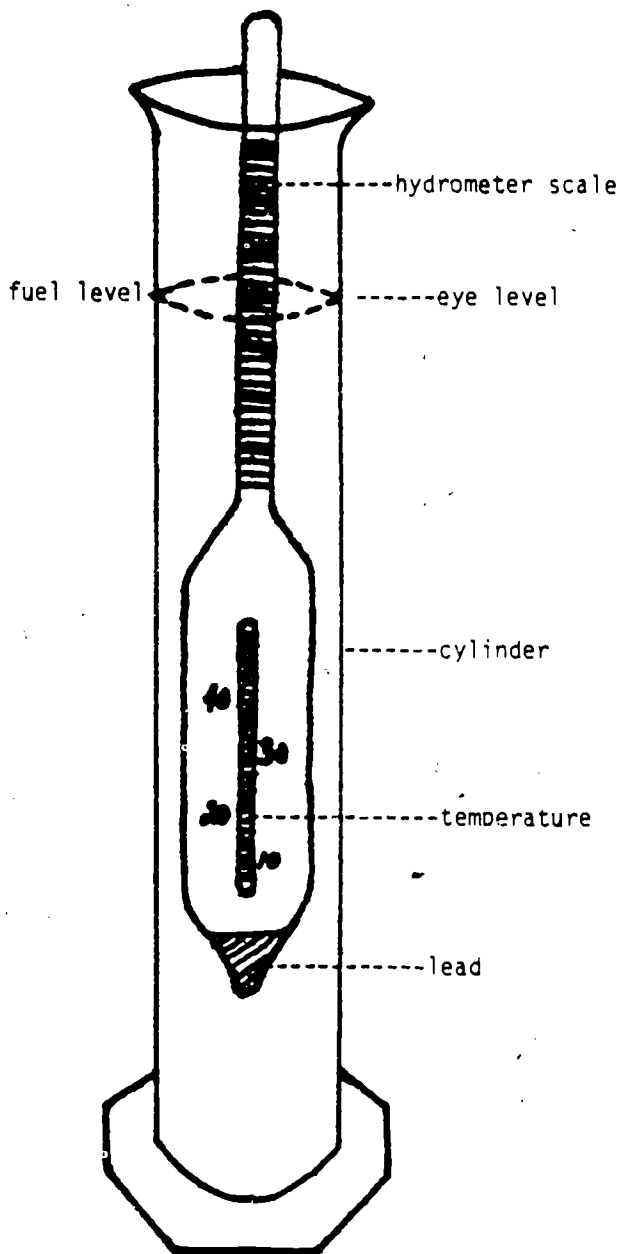

Figure 2
h. Gently lower the hydrometer into the sample until it floats. If the surface of the sample does not cut the scale on the hydrometer, exchange the hydrometer for another with the next lower set of numbers. Repeat until you get the right hydrometer. See Figure 2, Page 16 .